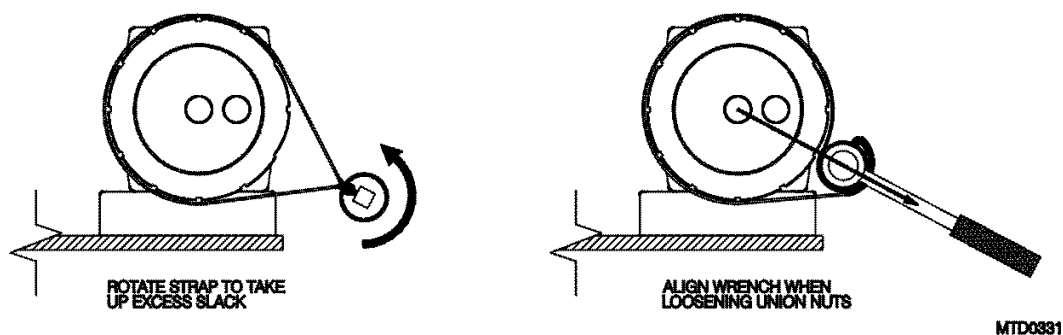

Figure 4-2
- Using strap wrench, turn head counter-clockwise to loosen (figure 4-2).